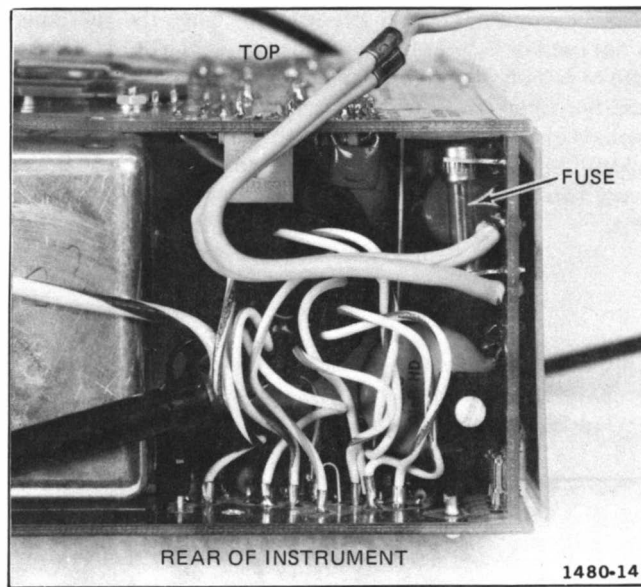

Fig. 8. Power line fuse location.
4. Replace the power line fuse (see Fig. 8) and reassemble the cabinet halves in the reverse order of disassembly. Be sure the power line cord and probe lead are properly placed at the inside rear of the cabinet and in their respective cabi-